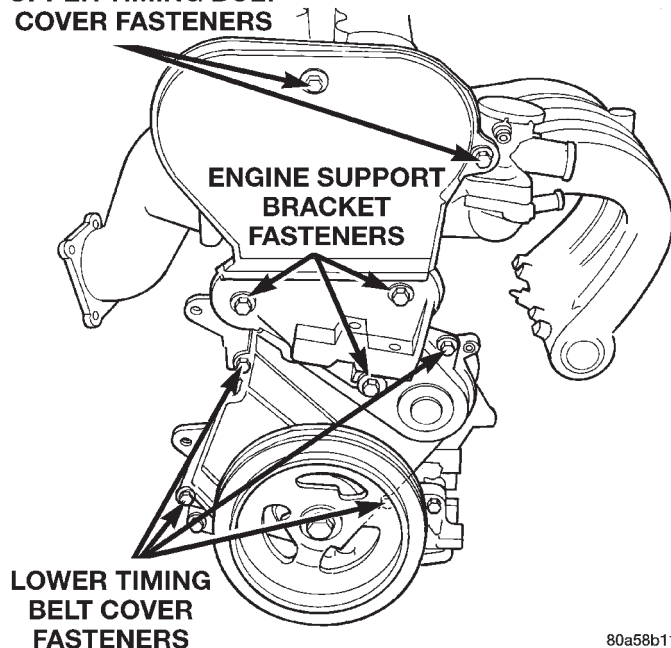

Fig. 51 Front Timing Belt Covers
- (1) Remove crankshaft damper. Refer to crankshaft damper removal for procedure.
- (2) Remove front timing belt cover fasteners (Fig. 51) and remove cover.
- (3) Remove engine mount bracket (Fig. 51).
- (1) Install the engine mount bracket and front timing belt cover (Fig. 51).
- (2) Install crankshaft damper. Refer to crankshaft damper installation for procedure.